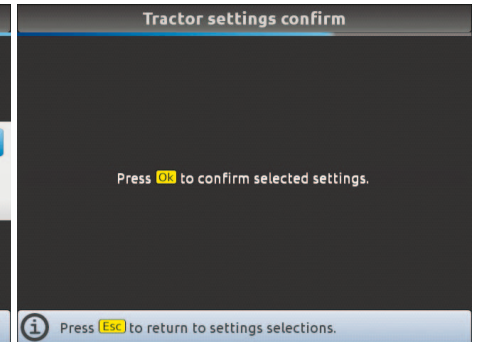

Fig. 50
- When the message in Fig. 50 appears, the tractor configuration is complete. Press **OK**.